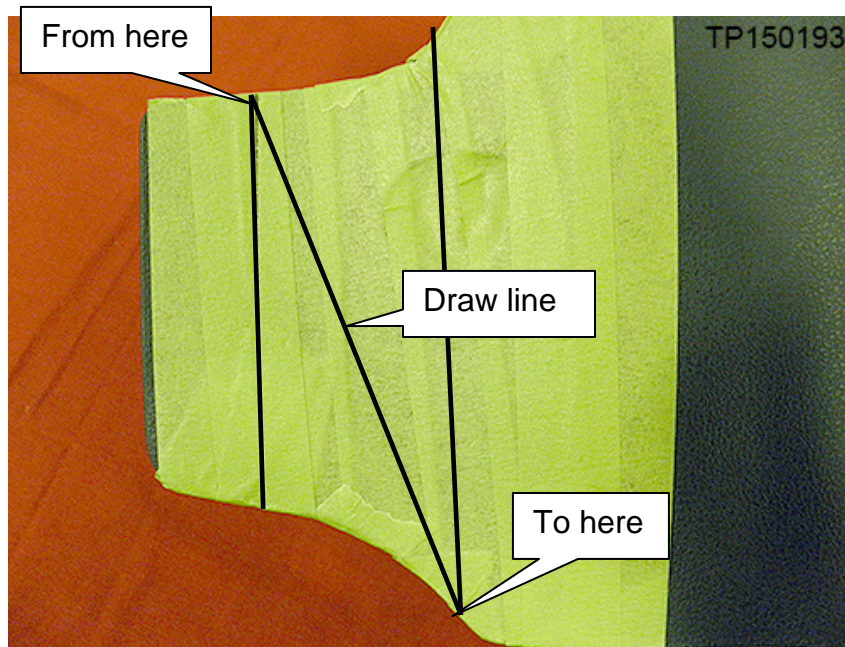

Figure 10
11. Draw a diagonal line from the top of the 30 mm line (step 9) to the bottom of the 80 mm line (step 10) on the Center Console Lower (Figure 10).